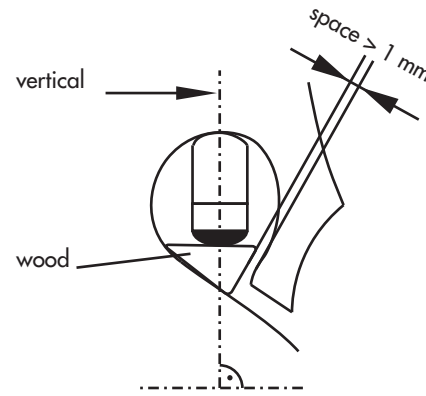

Fig. 1
- The pickup capsule should be fitted more or less vertically in the bridge hole under the G string for double bass, A string for cello and viola, and under the E string for violin, with the cork facing upwards. See Fig 1.